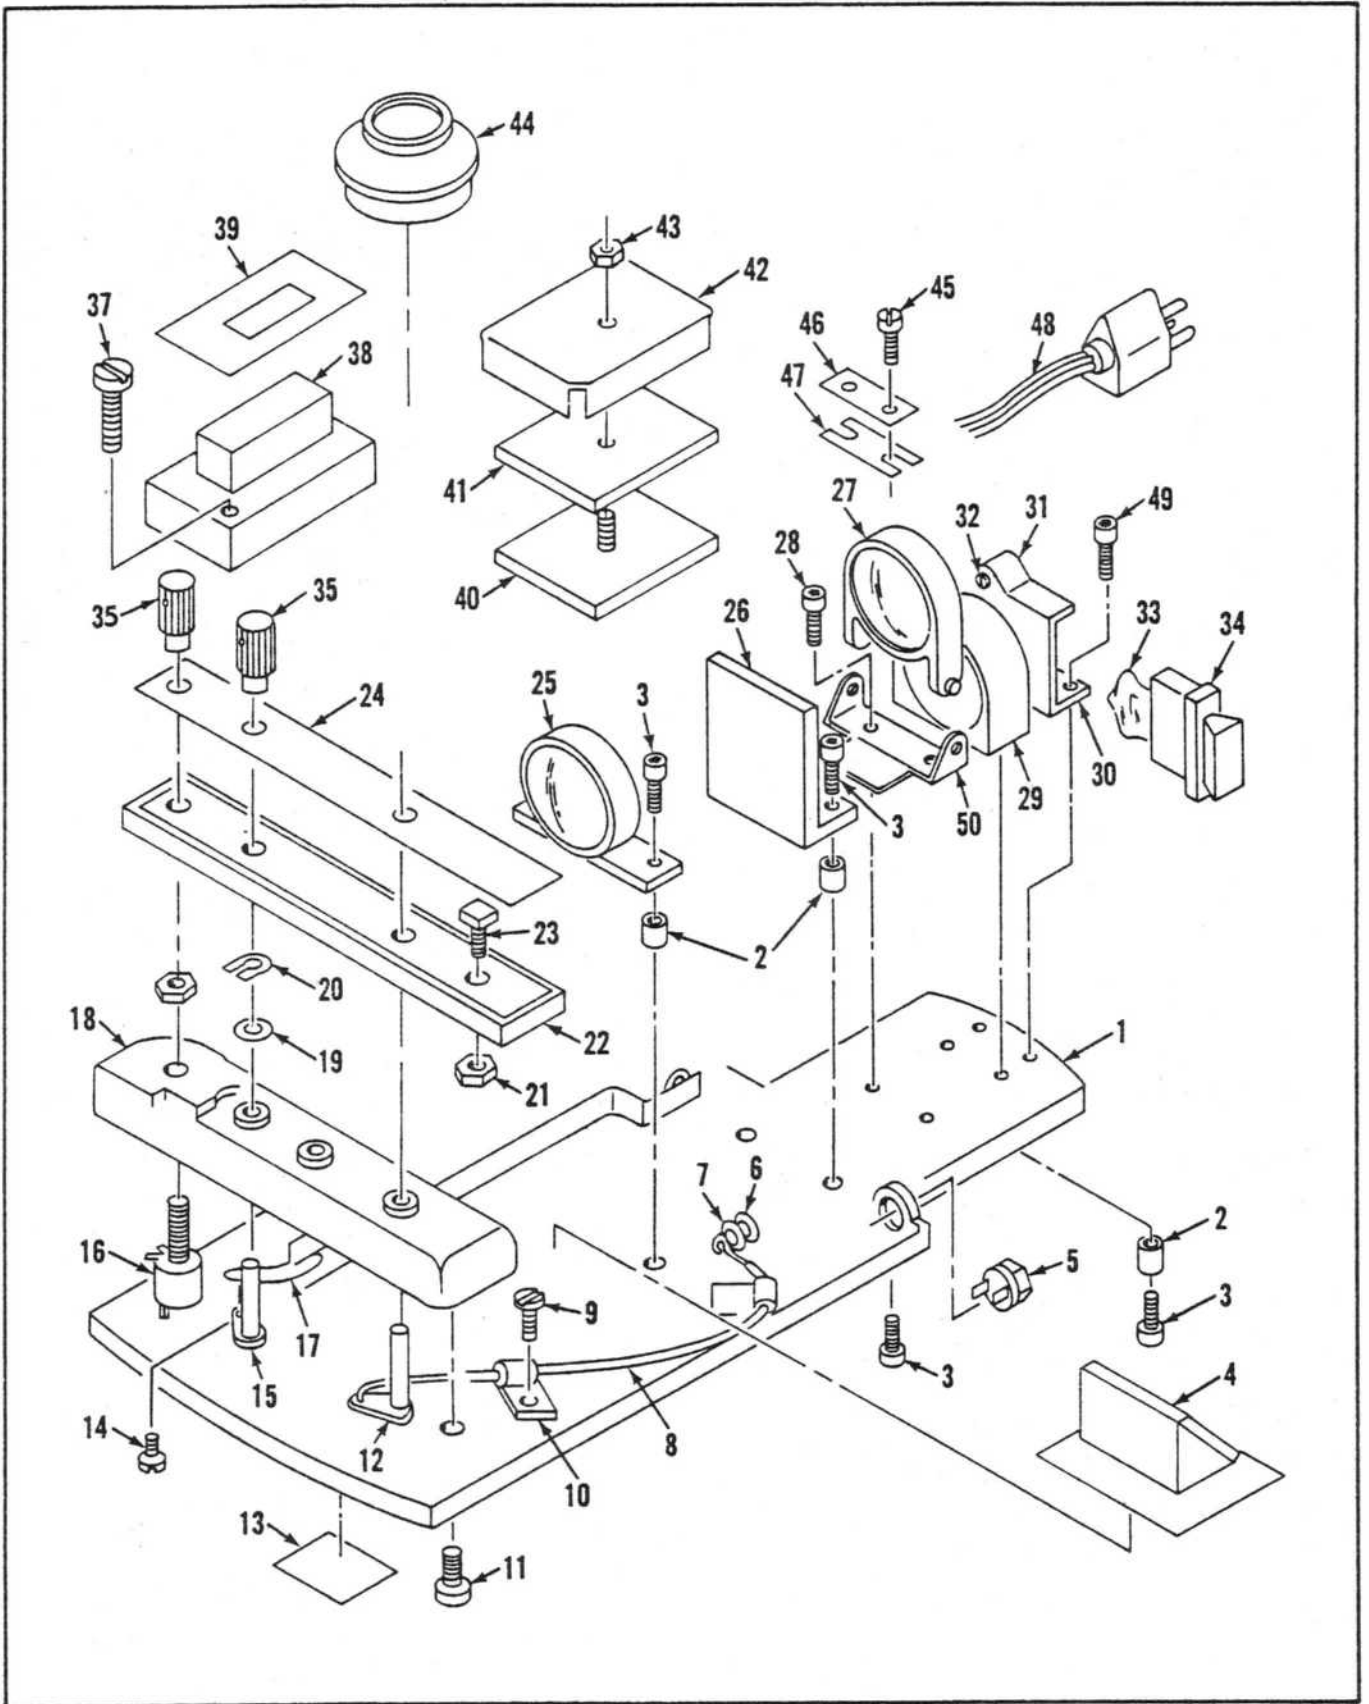

Figure 18. In-Base Transformer and Illuminator
7.0 BASE ILLUMINATOR (Figure 18)